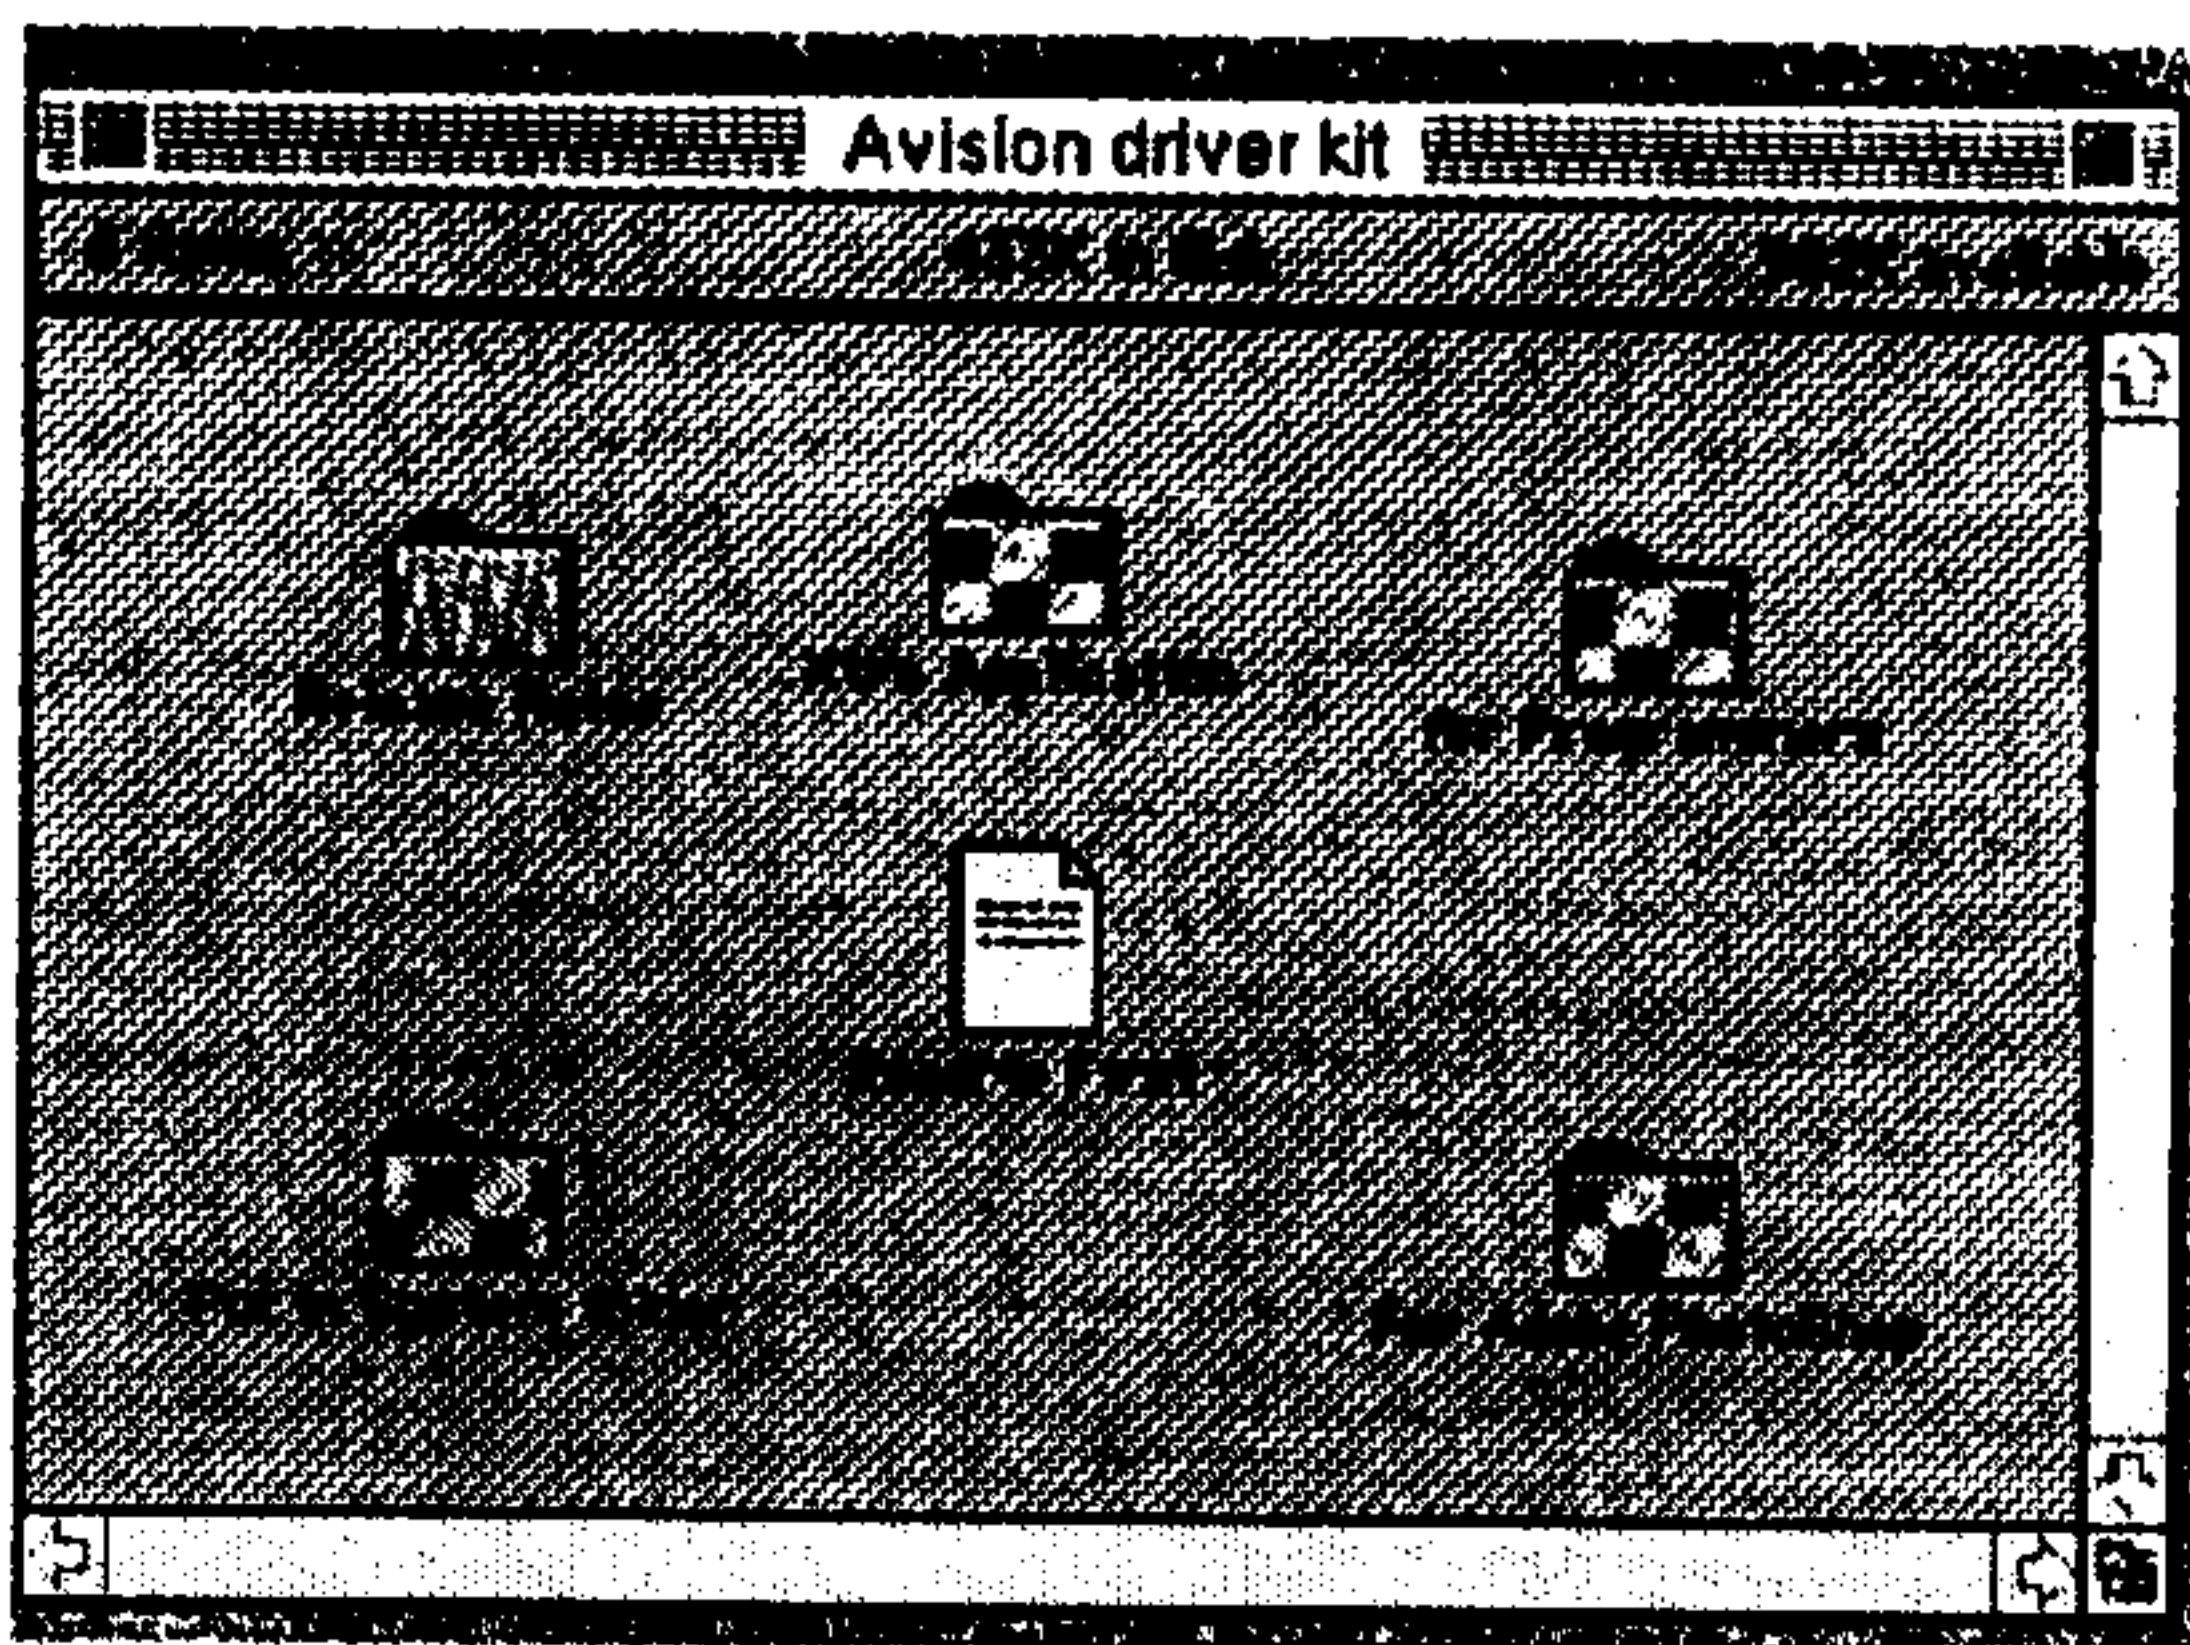

Fig. 4.4
1. Start your system, Insert "Avison Driver Kit" into your computer's disk drive. You will find the following files in the diskette (See Fig. 4.4) as follow.